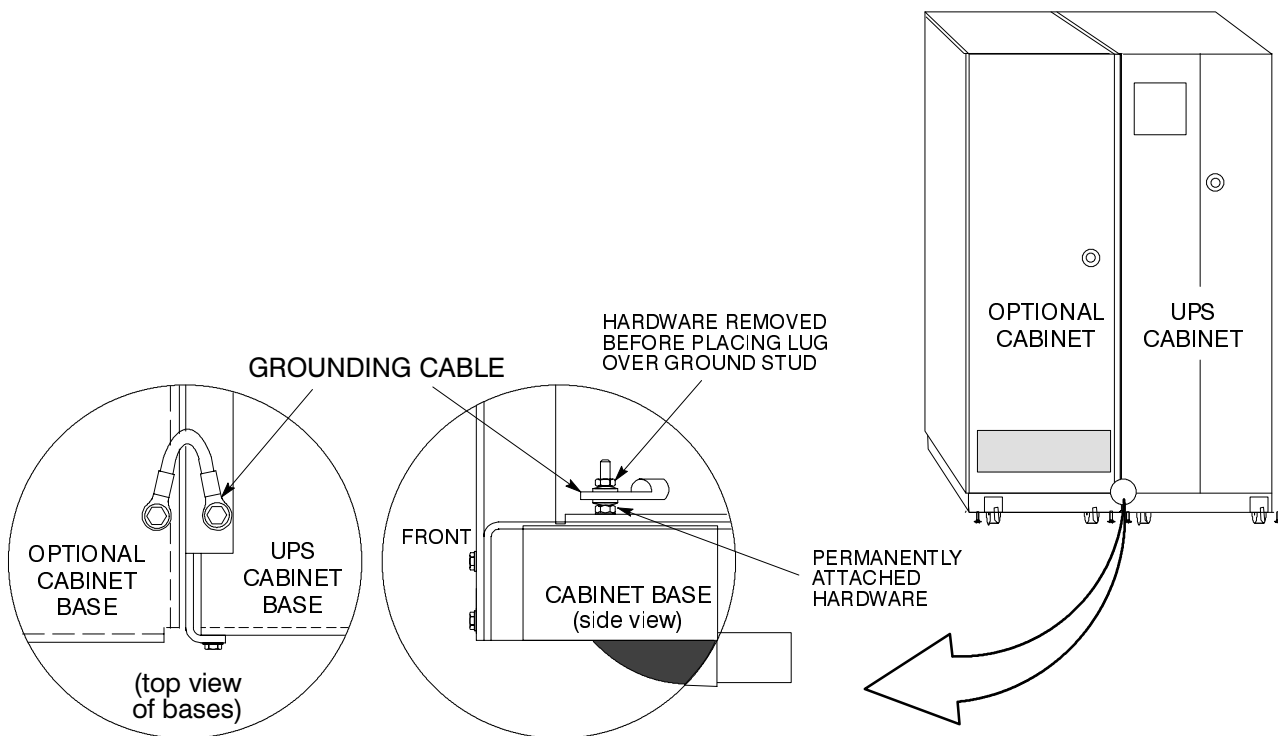

Figure 13. Cabinet-to-Cabinet Grounding – Method A
Open the door of each cabinet. Locate the grounding stud at the front/side of each frame. Remove the top nut, lock washer, and flat washer from each stud (if attached, see Figures 13 and 14).
2. Mount the grounding cable as shown in Figure 13, attaching it to the frame of each cabinet using the hardware previously removed.